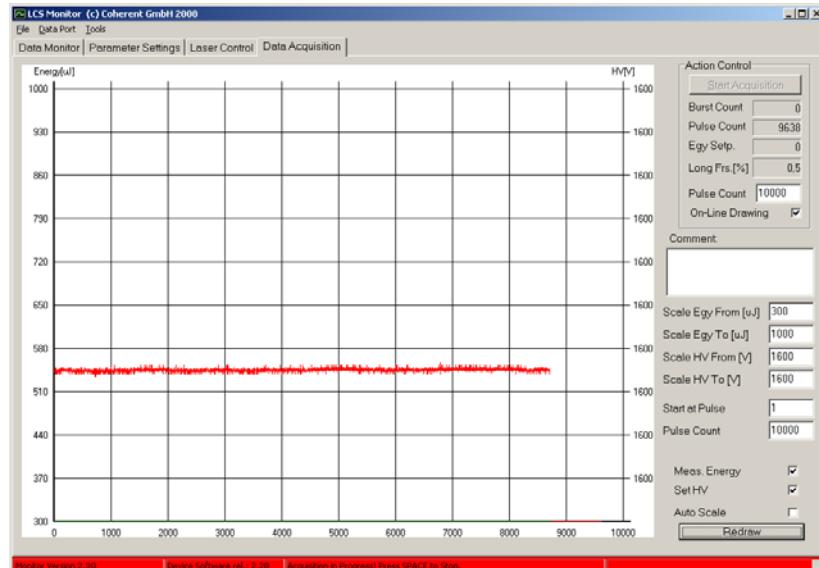

Figure 169: Data acquisition and display in progress
- If “On-Line Drawing” is active, the output of the laser will be immediately displayed (see Figure 169). If “On-Line Drawing” is not active, click “Redraw” to display the laser output.